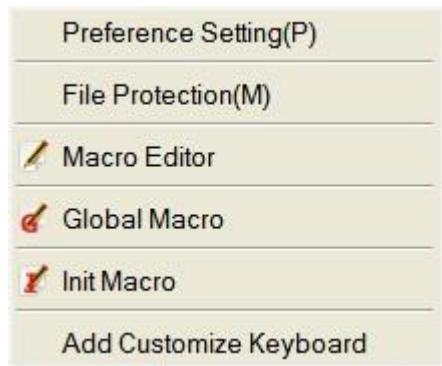

Figure 5-1 (Macro Menu)
Method 1: select “Setting (S) -> Macro” from the menu as shown in Figure 5-1 (macro menu), and pop up interface as shown in Figure 5-1(macro editor).